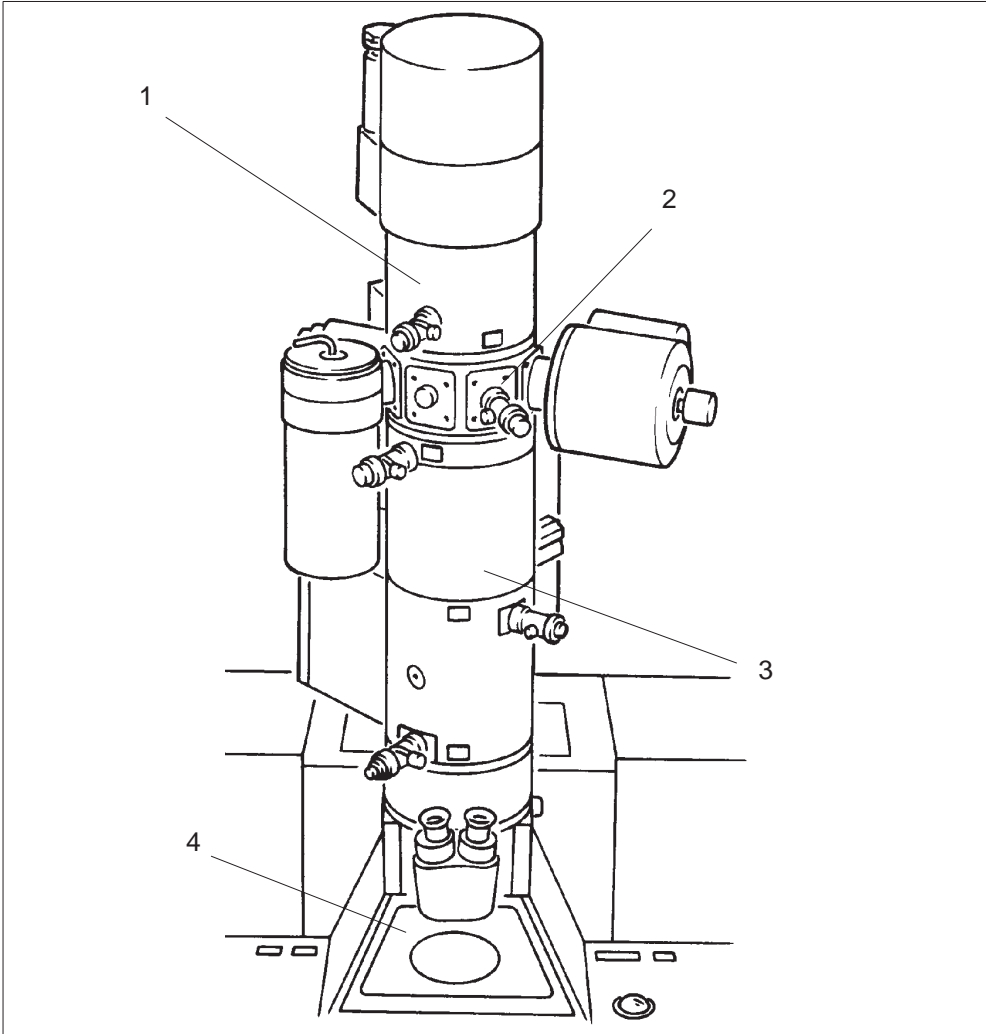

Fig. 1-27: Electron-optical column
The electron-optical column (Fig. 1-27) is evacuated by two high-vacuum pumps. An ion getter pump (IGP1) continuously evacuates specimen (2) and filament (1) chambers, even if the key switch is in OFF position (overnight service). A differential (pressure stage) aperture below the third projector lens (3) isolates the vacuum chamber from the lower column part. If necessary, e.g. for ventilation of one vacuum chamber or in overnight service it is isolated by the pneumatically controlled valve V3.